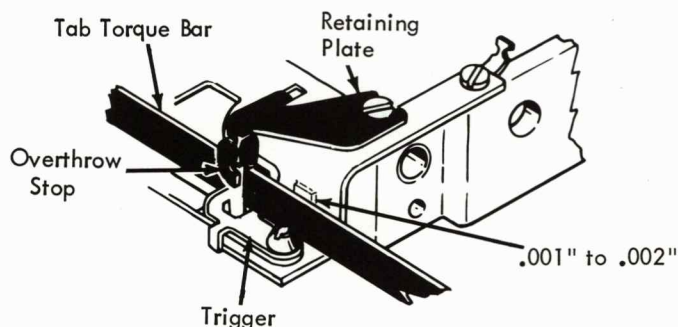

FIGURE 169. Tab Lever Overthrow Stop & Retaining Plate (New)
11. Tab Lever Overthrow Stop and Retaining Plate (Fig. 169) - Replace the tab torque bar overthrow stop and retaining plate and position it so that the overthrow lug falls directly in line with the upper lug on the tab trigger and retaining plate when positioned against the torque bar maintains .001" - .002" clearance between the torque bar and escapement bracket. The outer lug or overthrow stop should then be formed for .005" - .010" clearance between the tab lever trigger and the overthrow lug with the tab cam on its high point.